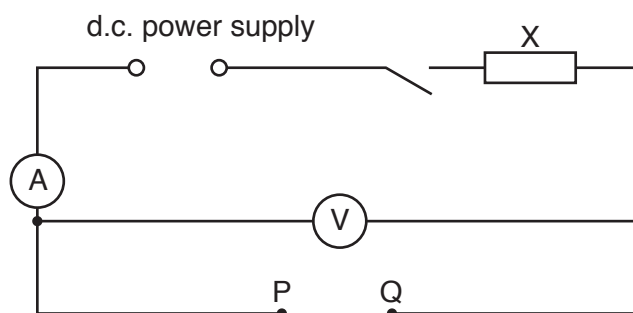

Fig. 3.1
- The Supervisor should set up the apparatus as shown in Fig. 3.1. The terminals P and Q should be clearly labelled. **Candidates** will be required to connect either the $10\ \Omega$ resistor or the $22\ \Omega$ resistor between P and Q.
4. At the changeover, the apparatus should be restored to its original state as in Fig. 3.1, removing any of the resistors labelled with their nominal values from the circuit. There should be a gap between P and Q. If cells are used, they should be checked and replaced, if necessary.